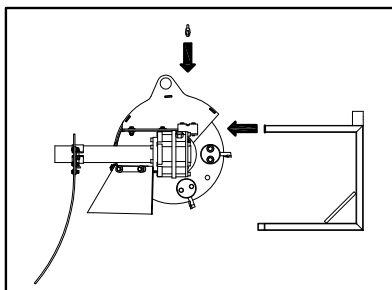

Fig. 4
- insert the towing bracket and the jockey wheel in their seats and tighten the wing nut and the retaining screws (Figs. 4 and 5);